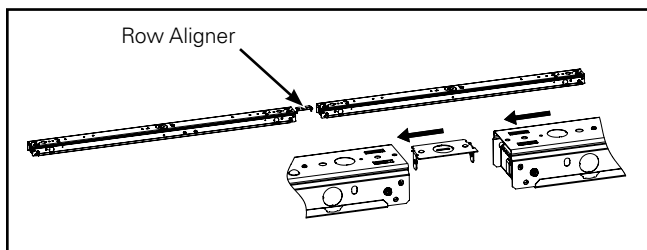

Figure 18.
3. Insert row aligner to one of the channels and insert another channel to the other end of row aligner. (Figure 18.)